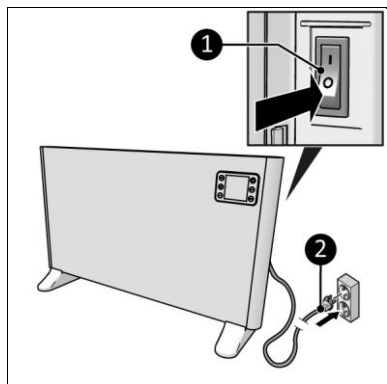

Figure 15
2. Make sure the ON/OFF switch is in the OFF position (Figure 15, pos. 1).
3. Place the power plug (Figure 15, pos. 2) into an earthed wall socket that is easily accessible. Use an earthed wall socket with a minimum power of 2500 Watt.